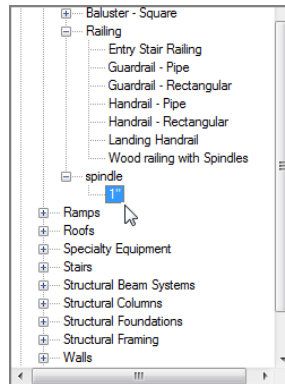

FIGURE 10.62: Finding the Spindle: 1" family to access the material
1. In the Project Browser, the Spindle category is just below Railing, as shown in Figure 10.62. Expand Spindle to expose the 1" (25mm) family.